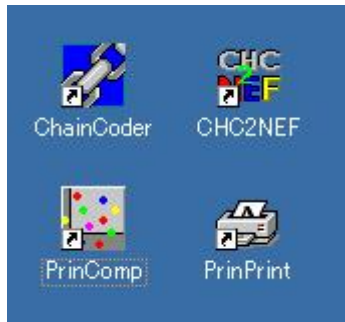

Fig. 2
3. (Optional) For convenience, make short cuts to "ChainCode.exe", "Chc2Nef.exe", "PrinComp.exe" and "PrinPrint.exe" on your desktop (Fig. 2).